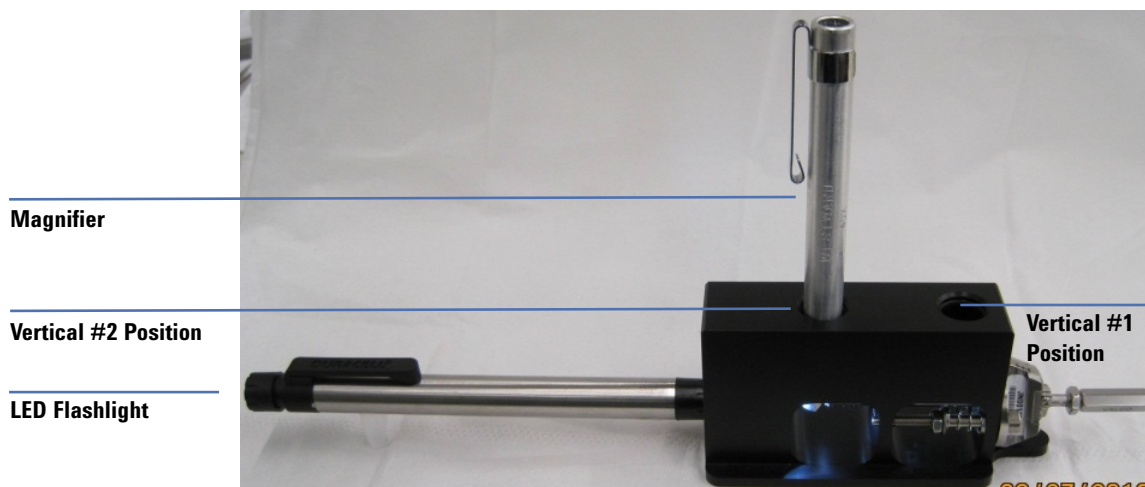

Figure 27 Setup to inspect the side of the nebulizer
- 3** To inspect the *side* of the nebulizer for the correct needle adjustment length, damaged needle, or corroded nozzle (Figure 27):